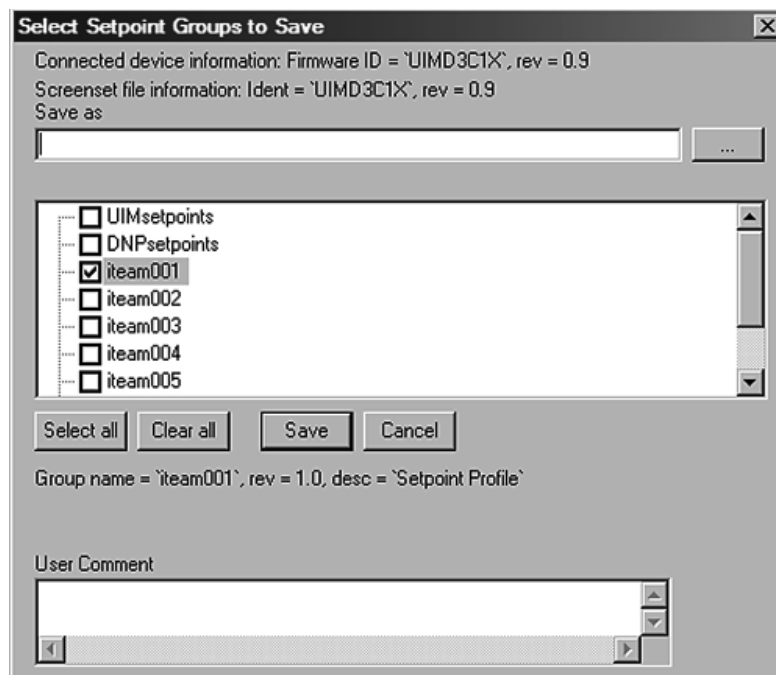

Figure 4. Select Setpoint Groups to Save Screen.
4. **In the Select Setpoint Groups to Save dialog box (see Figure 4), choose the setpoint values you want to save.**